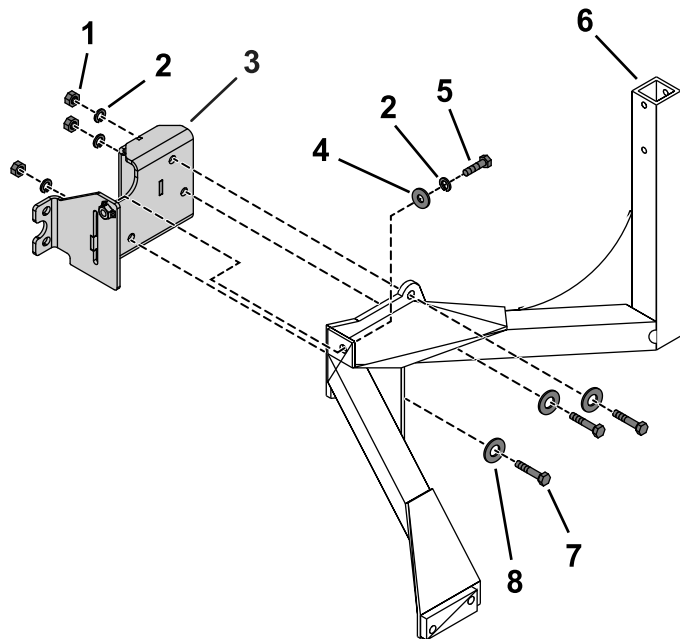

Figure 7
1. Use the 3 bolts (1/2 x 1-1/4 inches), flat washers, and nuts to secure the mounting plate to the mounting bracket (Figure 7).
2. Use the bolts (1/2 x 1 inch), nuts, and lock washers to secure the mounting bracket to the mounting plate (Figure 7).